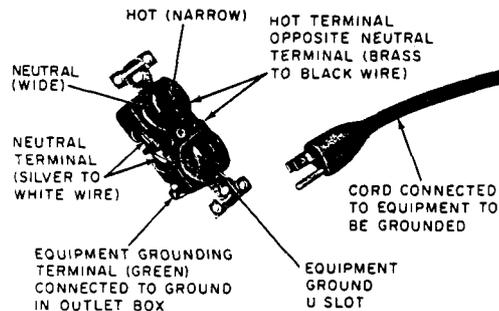

Fig. 8--Wiring of 125V Standard Plug and Receptacle
- 4.01 Three-Wire Grounding Type Receptacles: The most satisfactory method of providing an effective ground is through the connection of a 3-blade plug to a compatible 3-wire receptacle (Fig. 8).